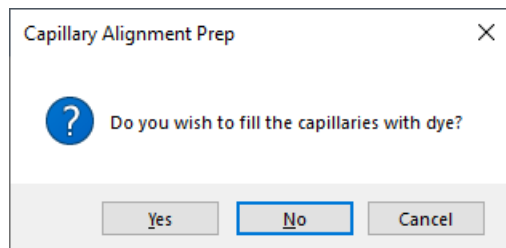
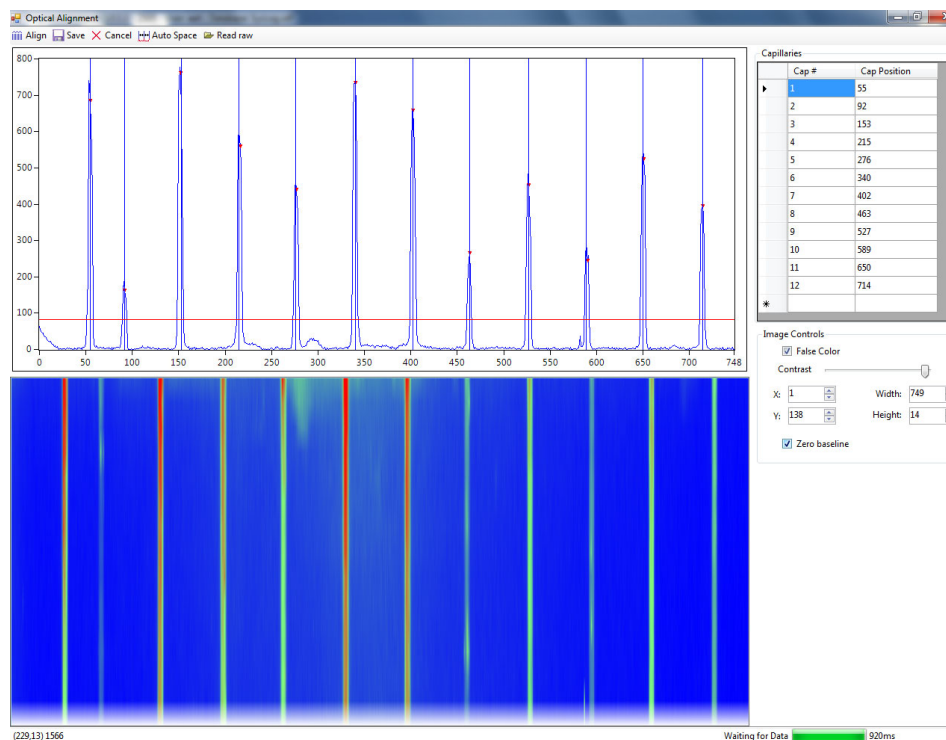

Figure 28 Capillary Alignment Prep window.
Figure 29 Real time capillary alignment popup window (example shows 12-capillaries)
When capillary alignment is selected from the Utilities menu, the **Capillary Alignment Prep** window will open prompting the user with the option to fill the capillaries with dye. This message is a carryover from the QC process and is not relevant to customer alignment methods. (Figure 28).
This will open the real time view of the *Capillary Alignment* window (Figure 29).
- 1 Select **No** when from the **Capillary Alignment Prep** window (see **Figure 28**). This will open the real time view of the *Capillary Alignment* window (see **Figure 29**).
- 7 Adjust the red baseline seen in **Figure 29** until a red dot is observed above each capillary peak. This determines which capillary peaks are selected. It is important to ensure this red line is above the baseline.